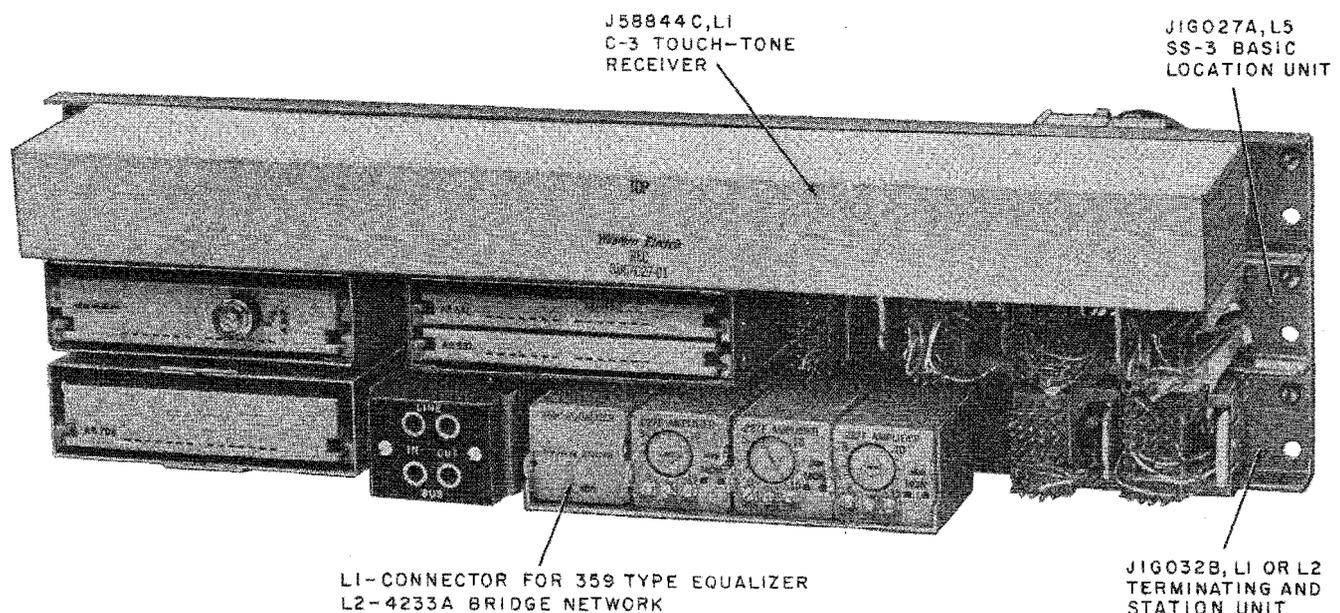

Fig. 1—Single Line-Single Station Packaged Units J1G032A, L1 or L2
**3.05** Two factory packaged units J1G032A, L1 and L2 (Fig. 1) are available to provide the signaling and the 4-wire termination required by an SS-3 order wire. The units are designed for single line-single station installations, however, the units may form the basic component of multiline and/or multistation installations. The two units are not interchangeable but differ only in that the L1 provides a connector for mounting a 359-type equalizer in the receive loop of a terminated facility, and the L2 provides a 4-way, 4-wire bridge network in the same connector for use when connecting to a through facility.